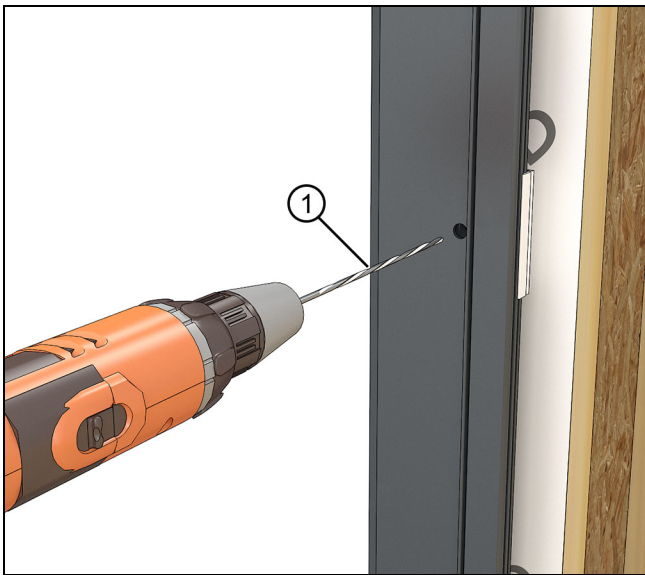

Figure 38
5. When driving screws into the rough opening, pre-drill first with a long 1/8" (3) drill bit. See Figure 38.